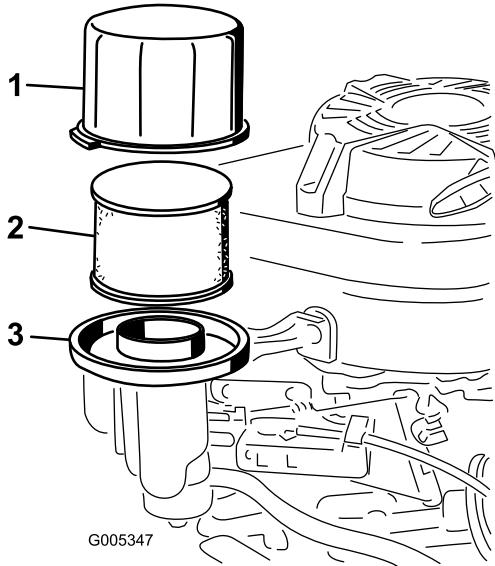

Figure 20
3. Remove the cover and clean it thoroughly (Figure 20).
4. Remove and the foam pre-cleaner and the paper-air filter from the air-cleaner base (Figure 20)